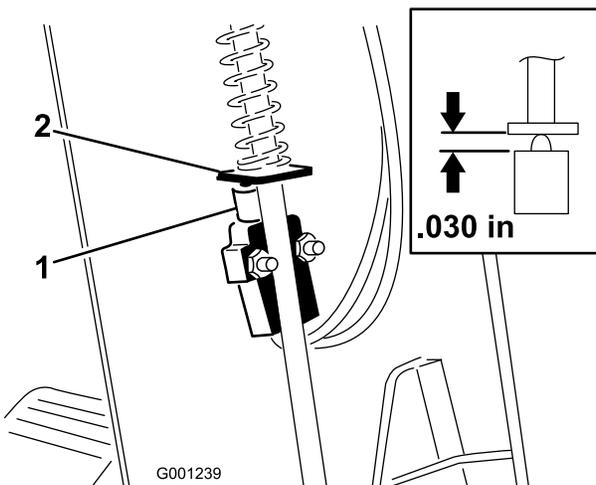

Figure 62
3. Slide the cover up the steering shaft to expose the parking brake switch (Figure 62).
5. Align the parking brake rod paddle with the switch plunger (Figure 62)
6. Press down on the parking brake rod and push up on the switch until the compressed length of the switch plunger is 0.030 inches (Figure 62, inset) . This is the distance between the brake rod paddle and the switch plunger housing.